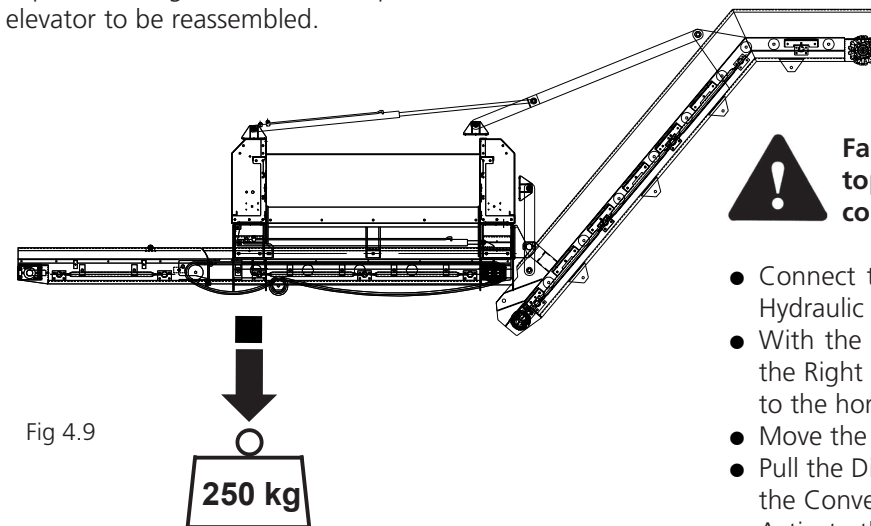

Fig 4.9
**Important** - The weight of the Loading Elevator must be balanced by attaching a counterweight of 250 kgs approximately, to the Left hand side of the machine. The customer is solely responsible for providing this counterweight which is necessary to provide stability when the machine is in operation. See Fig 4.9.